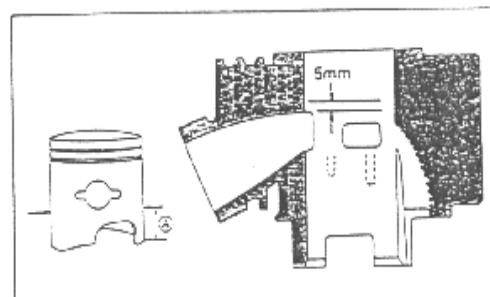

Fig. 2-52
Cylinder-to-piston clearance is the difference between piston diameter and bore diameter. read the elevation indicated in Fig. 2-52.
Referring to Fig. 2-52, be sure to take the mixed diameter at right angles to piston pin. The value of elevation (A) is prescribed to be 11 mm.
The elevation at which the bore diameter is to be read is about 5 mm above the exhaust port. Fig. 2-52.